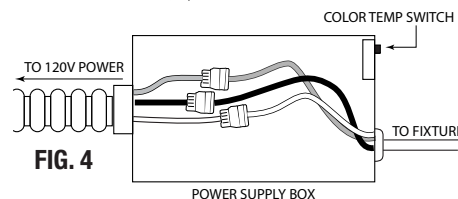

FIG. 4
4. CONNECT INCOMING POWER: Open Power Supply box cover and remove appropriate knock-outs to install fittings (1/2" trade size) with power leads. Connect Power Supply Box to 120V power source using flexible conduit or Romex (by others) through the mounting hole. Using wire connectors, connect incoming leads to power supply input leads. Ground to Green wire, Neutral to White wire, Hot Line to Black wire of box (Fig. 4).